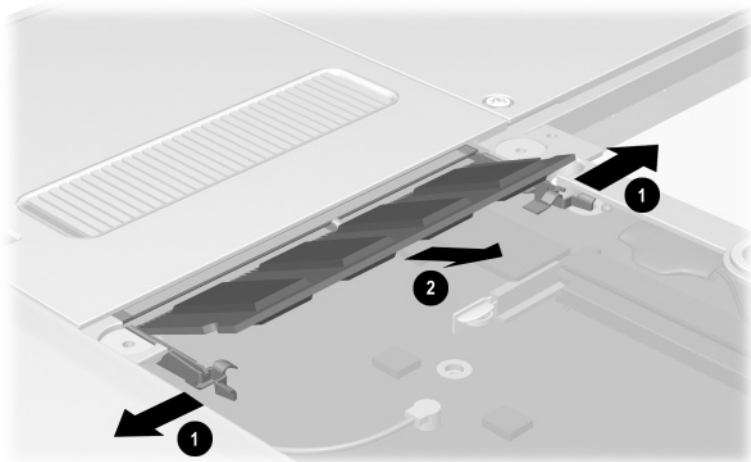

Figure 5-5. Removing the Memory Expansion Board
- b. Spread the retaining tabs ❶ securing the memory expansion board to the system board (Figure 5-5).
- d. Pull the memory expansion board away from the connector at a 45-degree angle ❷.